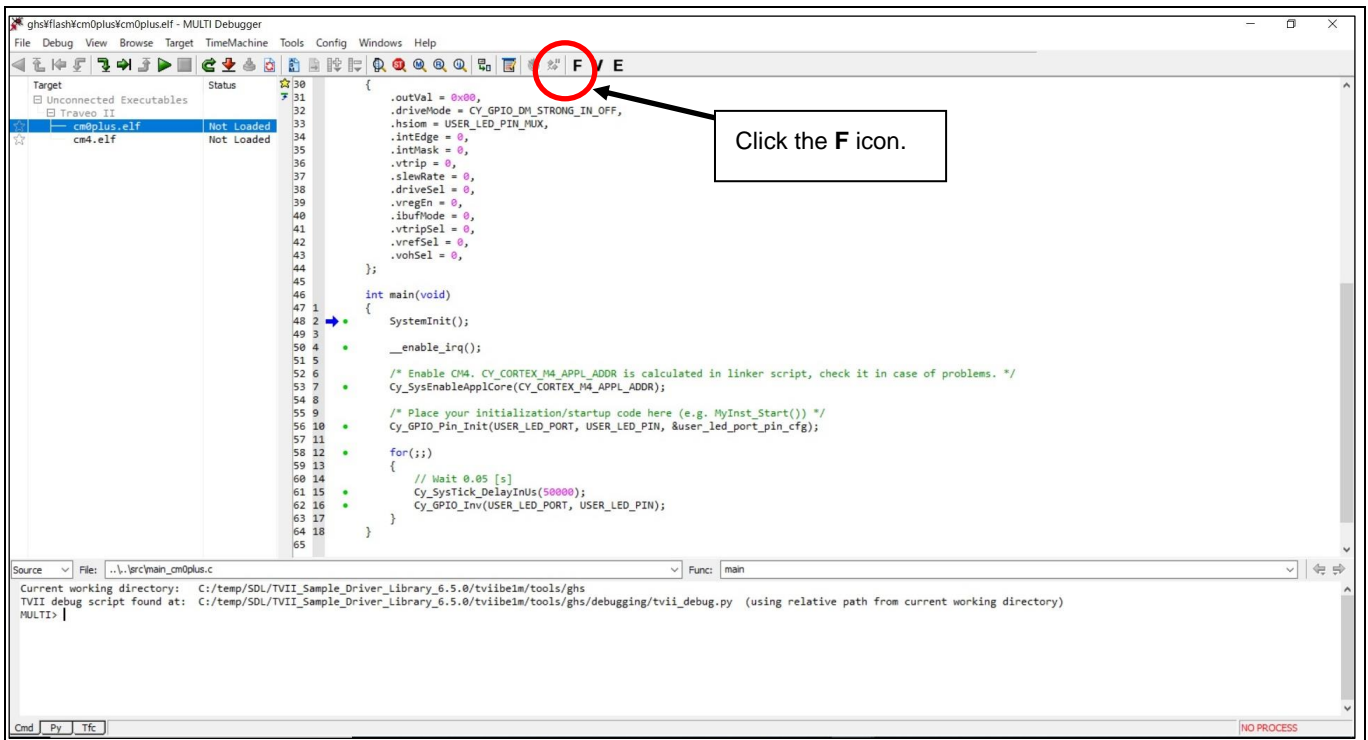

Figure 17 Load to Flash Memory
3. To load the program to the Flash memory, click the **F** icon as shown in **Figure 17**. Loading of the program to the Flash memory begins.